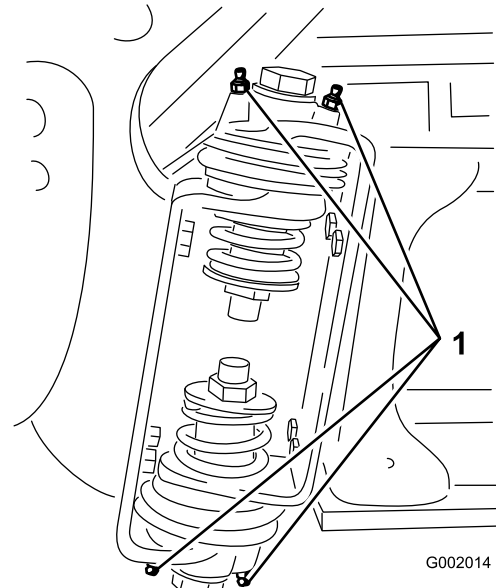

Figure 49
2. Pump grease into the bearing or bushing at each fitting Figure 49.